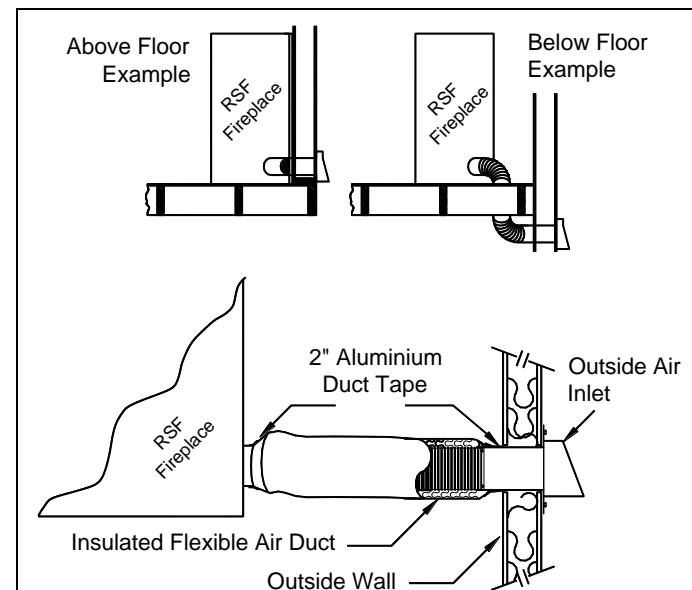

Figure 7 Outside Air Connection and Installation Example
After the fireplace is correctly positioned, connect the outside air inlet to the outside (see Figure 7).
1. Find a convenient location for the combustion air duct and outside air inlet. The outside air inlet can be above or below floor level (see Figure 7).